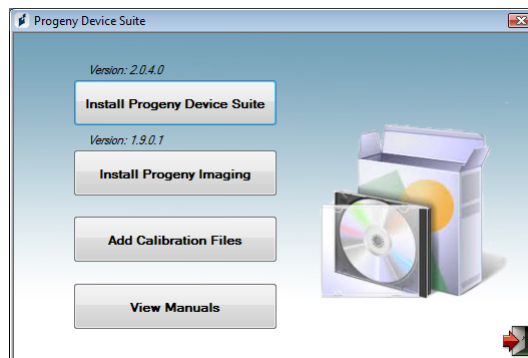

Figure 1: Main screen of the Installation software
- The main screen of the installation software is shown on Figure 1. If the software on the USB flash drive does not start automatically, navigate to Windows Explorer™ and select the “Progeny” drive letter. Browse to the content of the flash drive and start “Setup.exe”. This step begins the installation process.